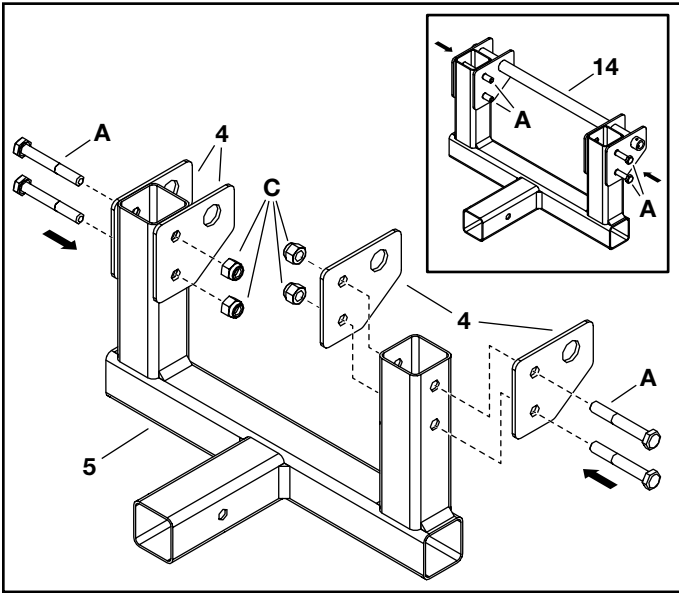

FIGURE 3
STEP 3: (SEE FIGURE 3)
- Attach four pivot brackets (4) to the blade mount assembly (5) using four hex bolts (A) and Nyloc hex nuts (C).
- To help align the pivot brackets (4), temporarily insert the pivot shaft (14) through the holes in the pivot brackets.
- Remove the pivot shaft (14) once the pivot brackets (4) are securely attached to the blade mount assembly (5).